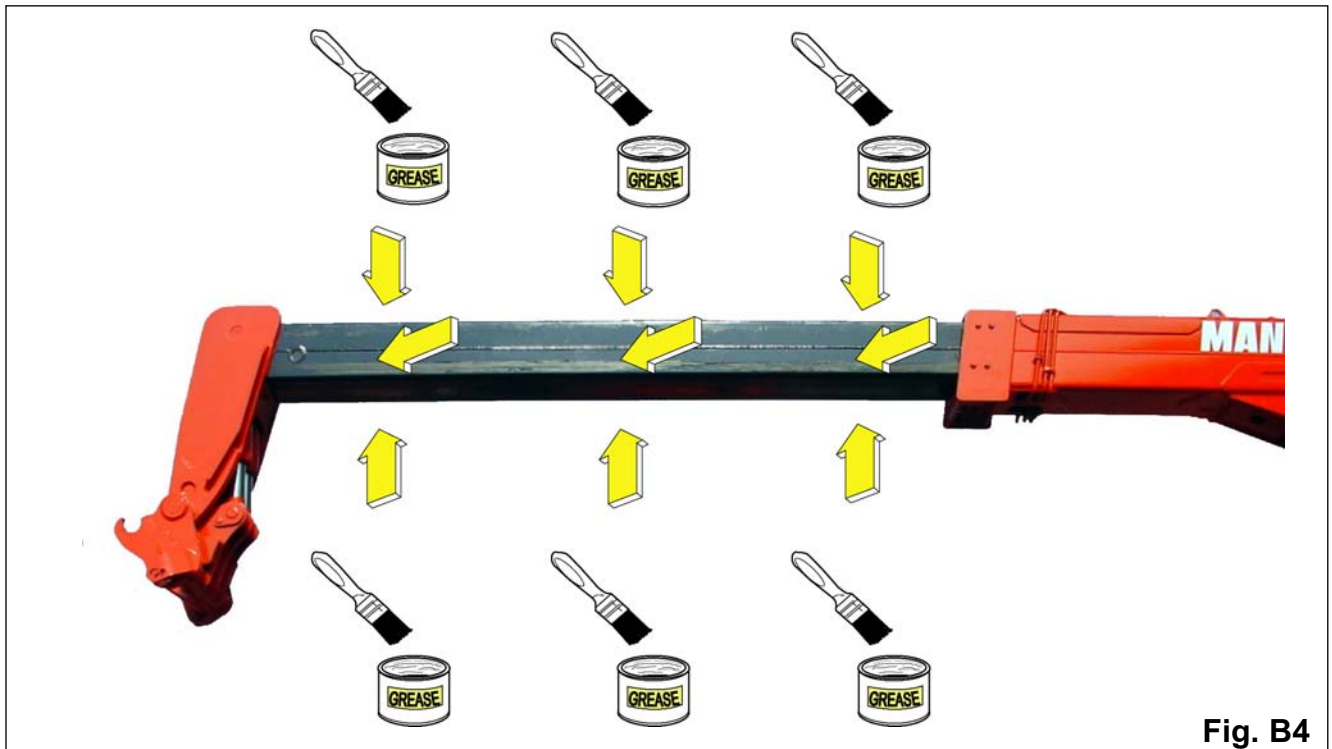

Fig. B4
- Use a brush to apply a layer of grease (see "OILS - GREASES - FLUIDS - FUEL - FILTERS" table) to the 4 sides of the telescopic boom (fig. B4).